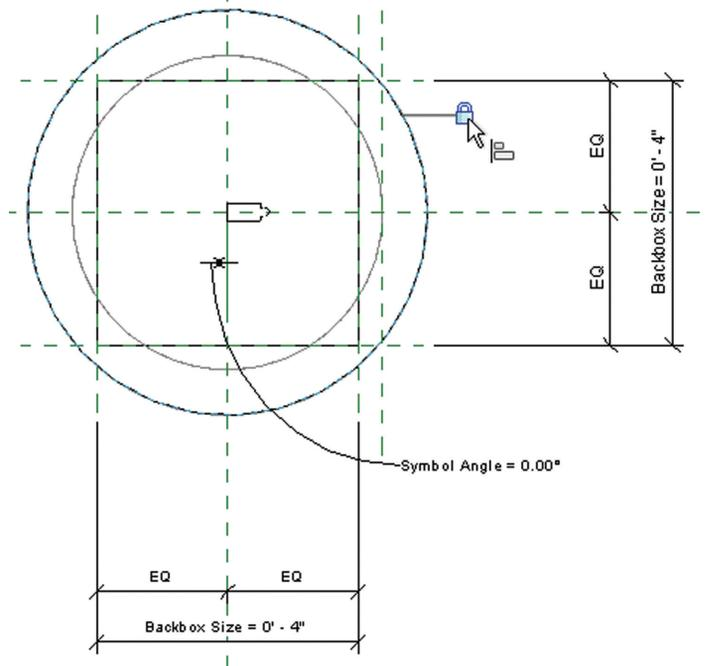

Figure 6: Add a constraint
6. Select the blue padlock symbol to constrain the symbolic circle to the extrusion circle. The padlock symbol should change to "locked" to constrain the symbolic circle (see Figure 6).